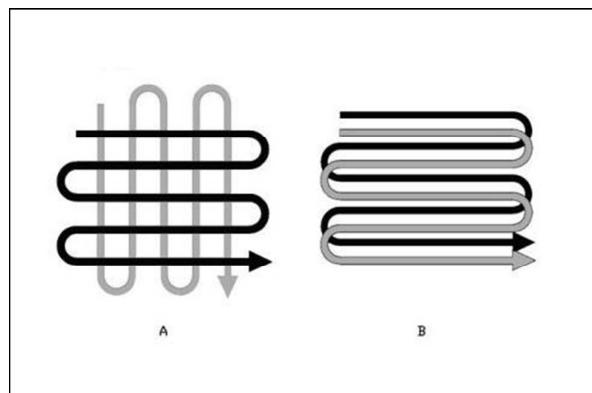

Fig.5
7. For preparing seed bed, we recommend using one of the tilling patterns shown in **Fig.5**.